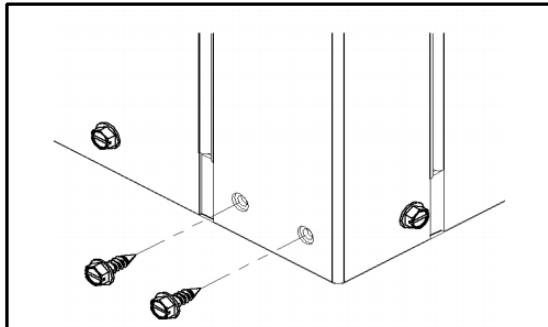

Fig. 6 — Removing Factory Screws
1. Remove and discard factory-provided screws from location where hanging brackets will be installed. (See Fig. 6.)